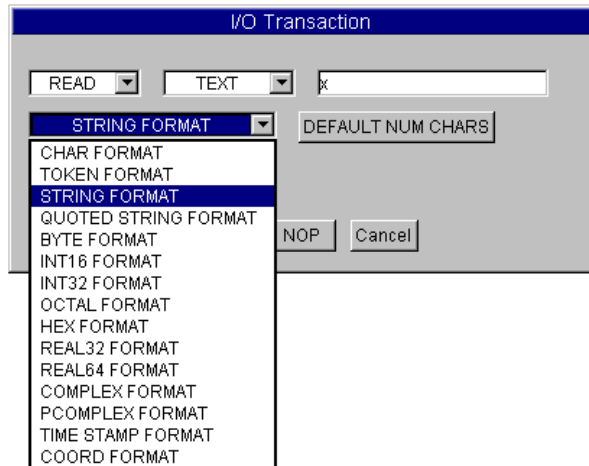

Figure 136 Selecting String Format
- 3 In the From File object, leave the default data file myFile. Double-click the transaction bar to get the I/O Transaction dialog box. Click REAL64 FORMAT and change it to STRING FORMAT, as shown in Figure 136.